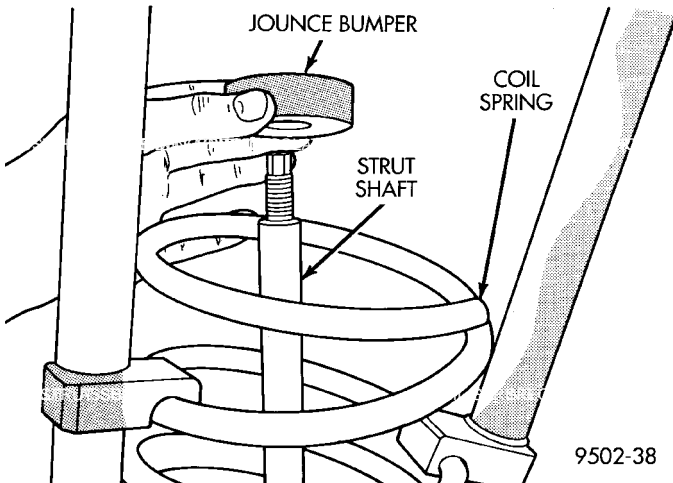

Fig. 64 Jounce Bumper Removal
(7) Remove the jounce bumper (Fig. 64) from the shaft of the strut assembly.
(3) Install jounce bumper on the strut shaft (Fig. 64).